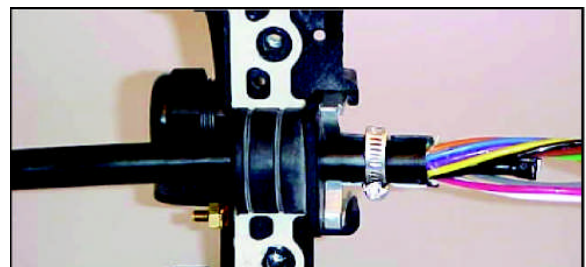

Figure 15
8.0.8 Apply a liberal layer of Silicone Grease on the exterior surface of the grommet and lower the assembly down into the lower end plate of the closure. *Refer to Figure 15*